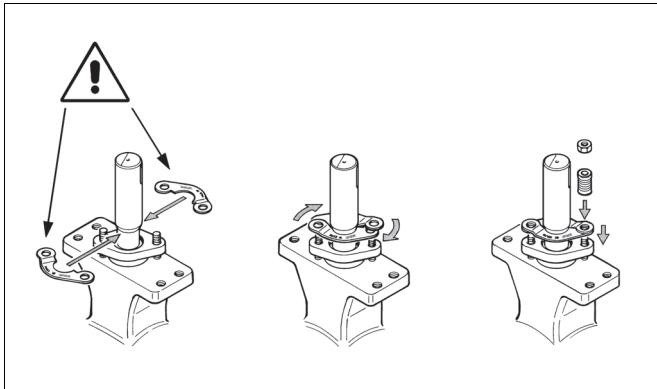

Fig. 10 Mounting the retaining plate
- Remove old packing rings (20). Do not damage the surfaces of the packing ring counterbore and shaft. It is not necessary to change anti-extrusion ring (22) and sheet ring (21).
- Mount the retaining plates with the text UPSIDE on top (see Fig. 10).